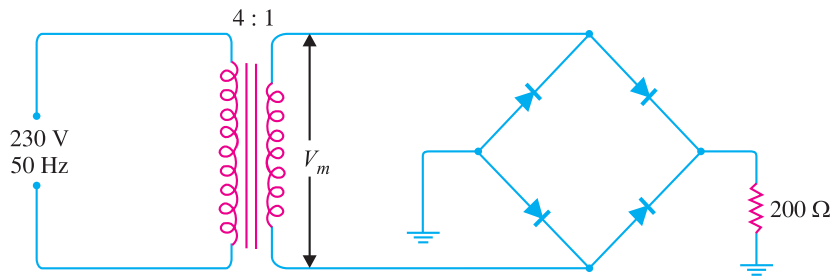

Fig. 6.32
**Example 6.18.** In the bridge type circuit shown in Fig. 6.32, the diodes are assumed to be ideal. Find :